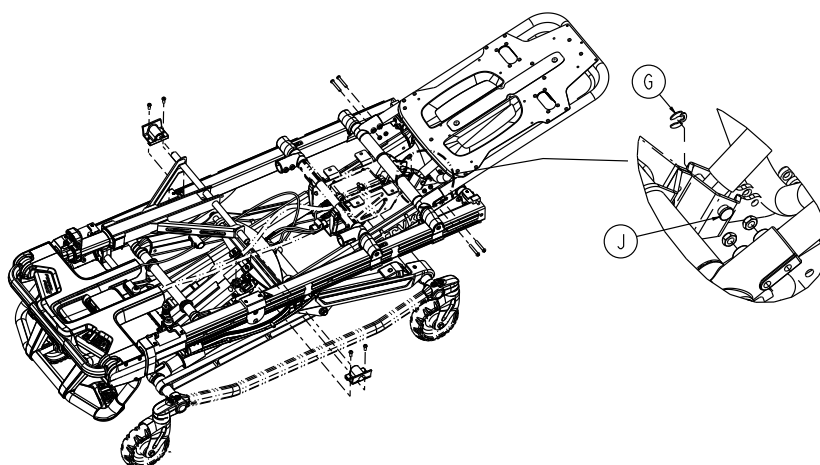

Figure 18 – Remove the truarc ring and Fowler cylinder pin
7. Using a small slotted screwdriver, remove the truarc ring (G) and Fowler cylinder pin (J) that secure the bottom of the gas cylinder to the mount (Figure 18). Save the truarc ring and Fowler cylinder pin.